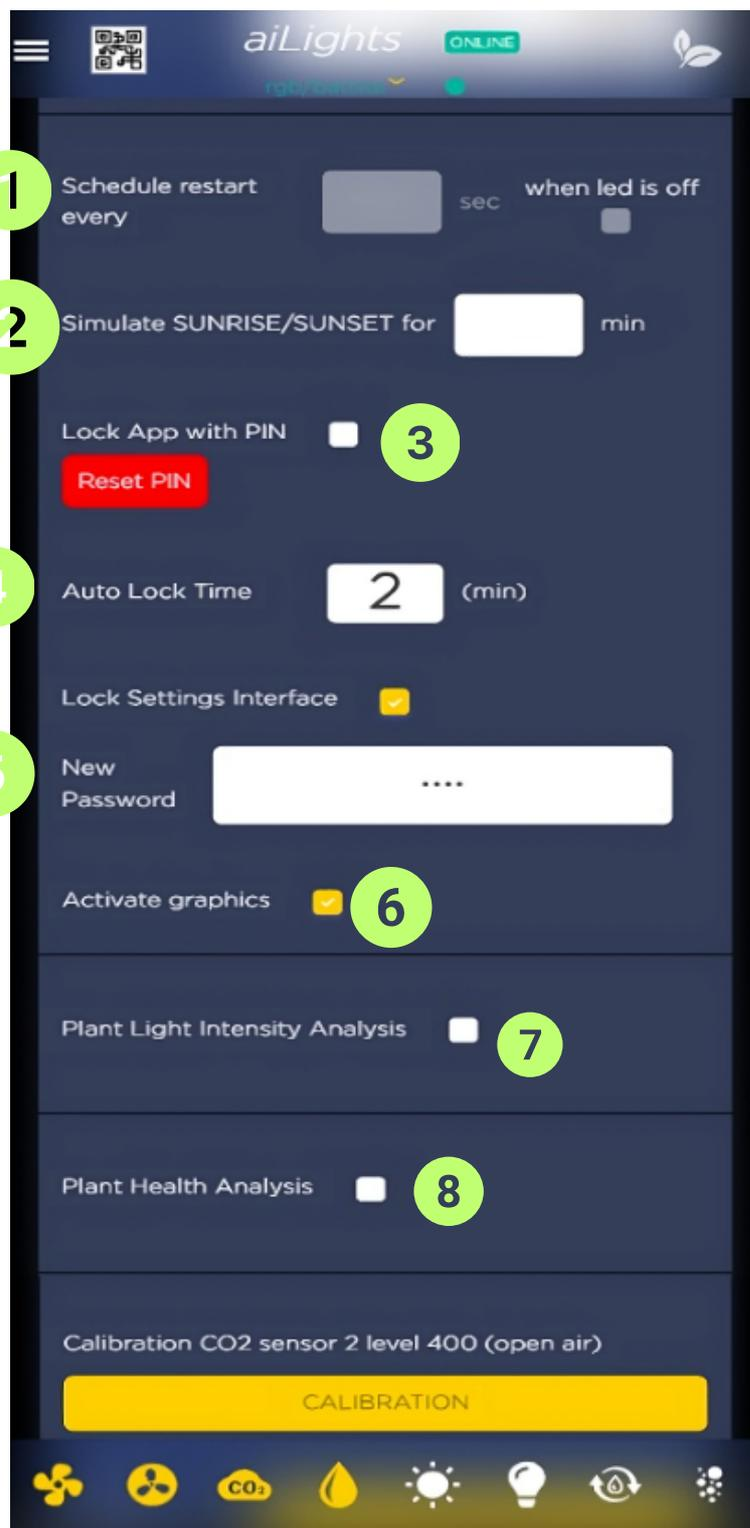

Figure 7.
- (3.1) If you want to change any of these parameters, you can do so using the sliders or buttons. With AILights you can constantly monitor the health of your plants. Do it like this (Figure 7): you set the parameters for the "SMART" function, the application will save and send them to the panels. They will work according to the set criteria and adapt to changes in the greenhouse conditions. For example, if the temperature in the greenhouse drops below 18°C, the sensors will switch on and raise it to the desired temperature
With AILights you can constantly monitor the health of your plants. Do it like this (Figure 7):